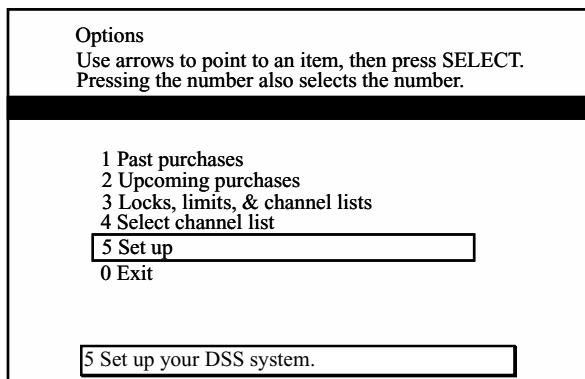

FIGURE 6-13 The options menu in the setup mode. (Courtesy of Thomson Multimedia.)
- Next, select “Setup” from the “Options” menu (Fig. 6-13).